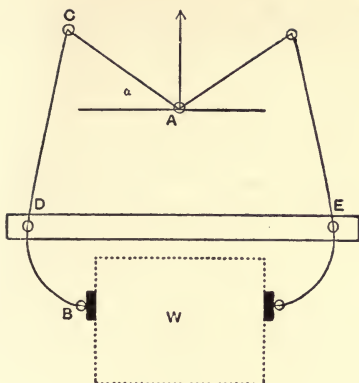

Fig. 1.
1. Fig. 1 shews the outline of a grip for lifting blocks of stone. The bent link  $BDC$  is pivoted at  $D$  to the distance piece  $DE$  and there are pin joints at  $A$ ,  $C$ , and  $B$ . Shew that the horizontal gripping forces are